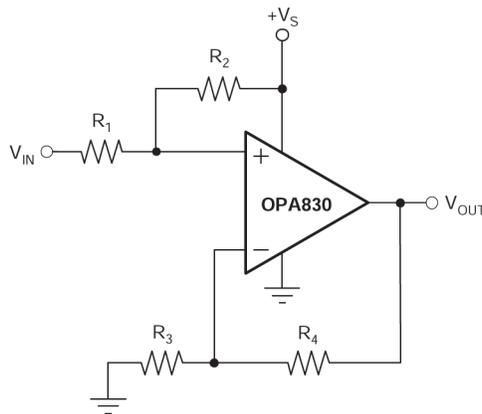

Figure 8-4. DC Level-Shifting
Figure 8-4 shows a dc-coupled non inverting amplifier that level-shifts the input up to accommodate the desired output voltage range. Given the desired signal gain (G), and the amount V_{OUT} needs to be shifted up (ΔV_{OUT}) when V_{IN} is at the center of the range, the following equations give the resistor values that produce the desired performance. Assume that R_4 is between 200Ω and $1.5k\Omega$.